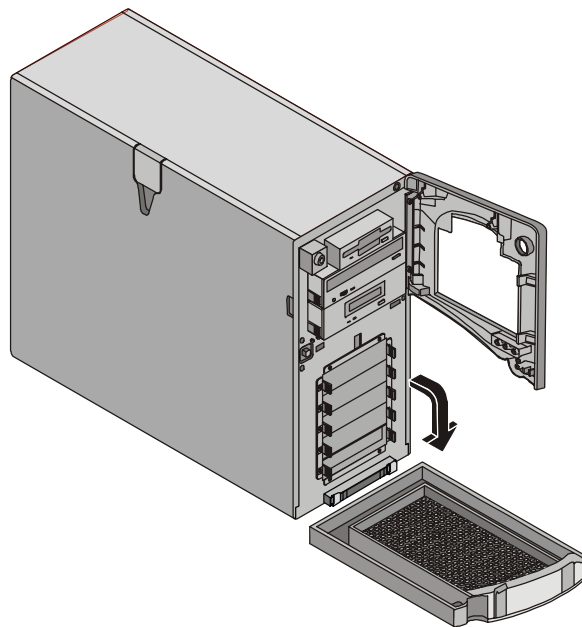

Figure 3-3. Lower Bezel (Open)
- The SCSI hard drives are accessible from the front lower bezel. See Figure 3-3.
3. Press down on the two tabs at the top of the lower bezel, pull the bezel toward you, and lower the door. See Figure 3-3.